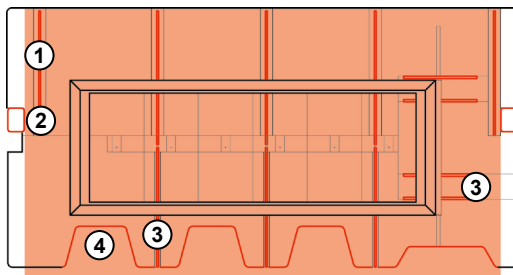

Figure 13: Working range of pantograph
- CAUTION! - The pantograph travels at a very high speed. Do not rest on the work table or lean against the table recesses within the working range of the pantograph (Figure 13). A collision with the high-speed pantograph can cause bruising and injuries resulting from crushing or shear forces (Figure 14).